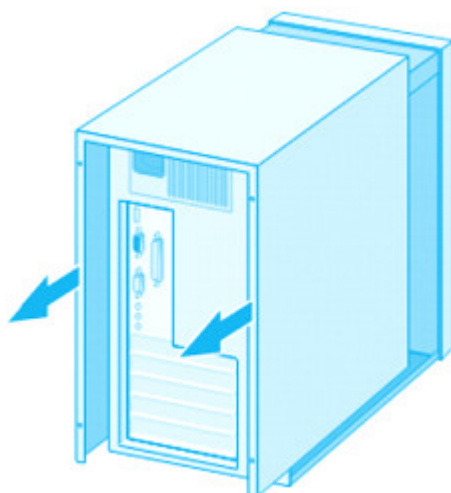

Fig. 1
2. Remove the system cover and select any empty PCIe slot. See Fig 1.